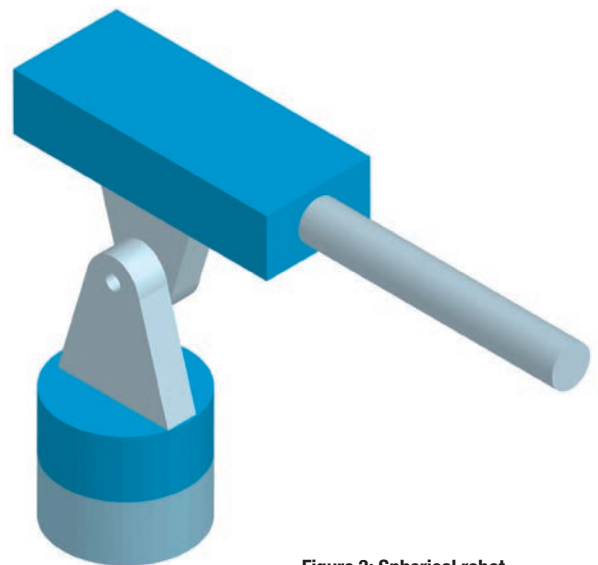

Figure 3: Spherical robot
- Spherical robots (Figure 3) have a pair of rotary joints and a linear one, enabling them to operate in a spherical zone. They're used for welding, tool-handling and casting.